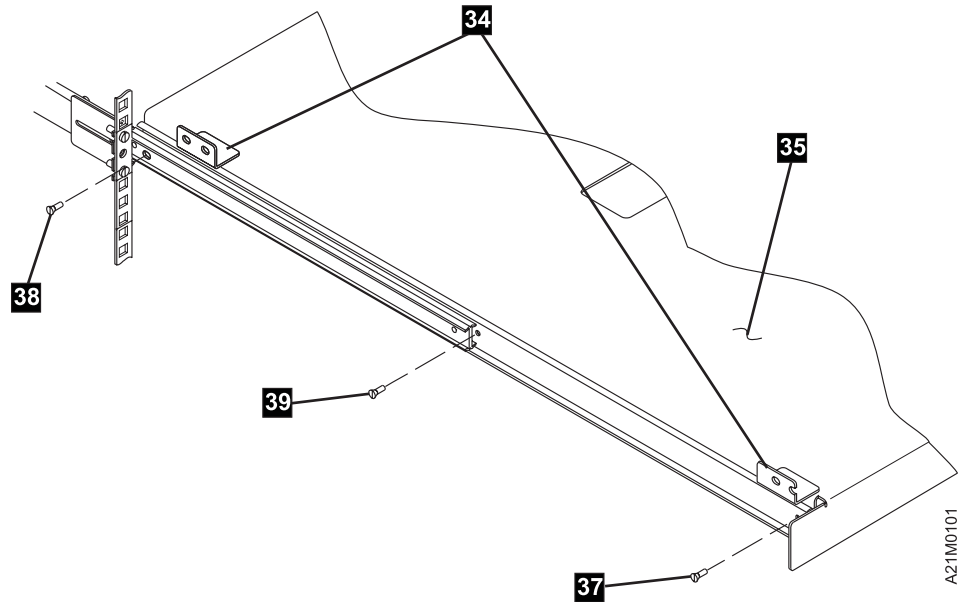

Figure 39. Attaching Tray to Left-Hand Slide
- \_\_\_ Step 9. See Figure 39 on page 77 to attach the tray to the left-hand slide.
- \_\_\_ Step b. See Figure 39, slide the tray out to its fully extended locking position.